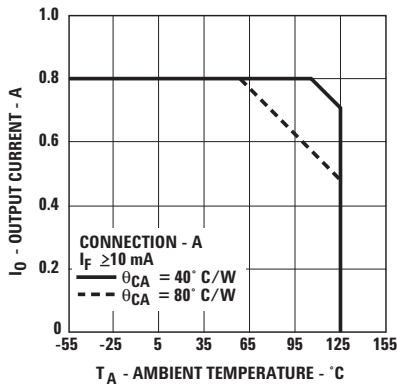
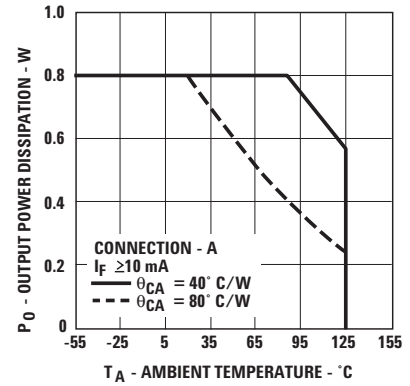

Figure 2. Maximum Average Output Current Rating vs. Ambient Temperature.
Figure 4. Output Power Rating vs. Ambient Temperature.
2. For rating, see Figure 4. The output power P_O rating curve is obtained when the part is handling the maximum average output current I_O as shown in Figure 2.
IN ORDER TO DETERMINE V_{OUT} CORRECTLY, THE CASE TO AMBIENT THERMAL IMPEDANCE MUST BE MEASURED FOR THE BURN-IN BOARDS TO BE USED. THEN, KNOWING θ_{CA} , DETERMINE THE CORRECT OUTPUT CURRENT PER FIGURES 2 AND 4 TO INSURE THAT THE DEVICE MEETS THE DERATING REQUIREMENTS AS SHOWN.
The output on-resistance, R_{ON} , specified in this data sheet, is the resistance measured across the output contact when a pulsed current signal ($I_O = 800 \text{ mA}$) is applied to the output pins. The use of a pulsed signal ($\leq 30 \text{ ms}$) implies that each junction temperature is equal to the ambient and case temperatures. The steady-state resistance, R_{SS} , on the other hand, is the value of the resistance measured across the output contact when a DC current signal is applied to the output pins for a duration sufficient to reach thermal equilibrium. R_{SS} includes the effects of the temperature rise of each element in the thermal model. Rating curves are shown in Figures 2 and 4. Figure 2 specifies the maximum average output current allowable for a given ambient temperature. Figure 4 specifies the output power dissipation allowable for a given ambient temperature. Above 55°C (for $\theta_{CA} = 80^{\circ}\text{C}/\text{W}$) and 107°C (for $\theta_{CA} = 40^{\circ}\text{C}/\text{W}$), the maximum allowable output current and power dissipation are related by the expression $R_{SS} = P_{O(\max)} / (I_{O(\max)})^2$ from which R_{SS} can be calculated. Staying within the safe area assures that the steady-state junction temperatures remain less than 150°C . As an example, for $T_A = 95^{\circ}\text{C}$ and $\theta_{CA} = 80^{\circ}\text{C}/\text{W}$, Figure 2 shows that the output current should be limited to less than 610 mA . A check with Figure 4 shows that the output power dissipation at $T_A = 95^{\circ}\text{C}$ and $I_O = 610 \text{ mA}$, will be limited to less than 0.35 W . This yields an R_{SS} of 0.94Ω .